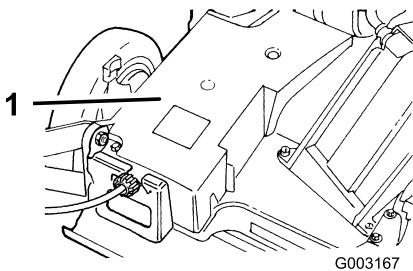

Figure 37
2. Remove the bolts that secure the belt cover (Figure 37) to the machine housing.